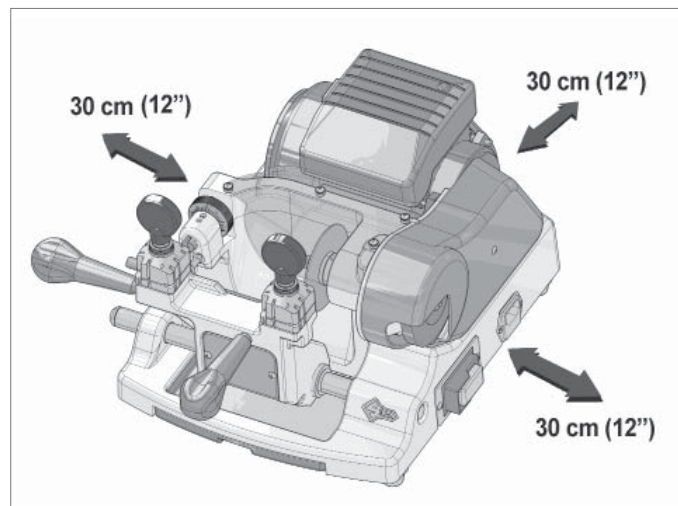

Fig. 11
- it is important to leave clearance of at least 30 cm (12") behind the machine and on each side to ensure proper ventilation (Fig. 11).